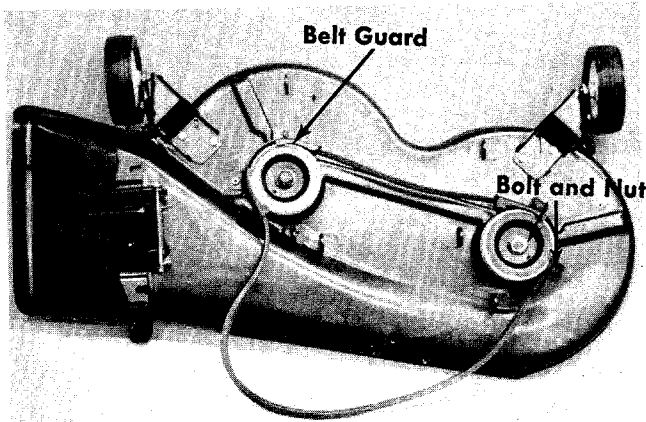

FIGURE 22. 30" DECK
Step 8. **Removing the blade belt.** See figure 22.